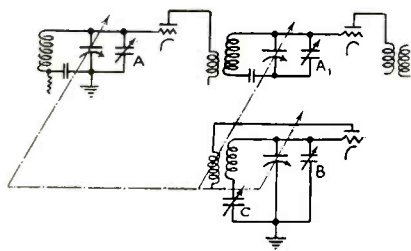

Fig. 3. Typical receiver r-f system.
2. (Broadcast band 550 to 1750 kc.) Set the regular test oscillator at the correct alignment frequency near the top end of the broadcast band, say 1700 kc. Introduce this signal at the antenna terminal and carefully adjust the trimmers a, a₁, and b (Fig. 3) for maximum output.